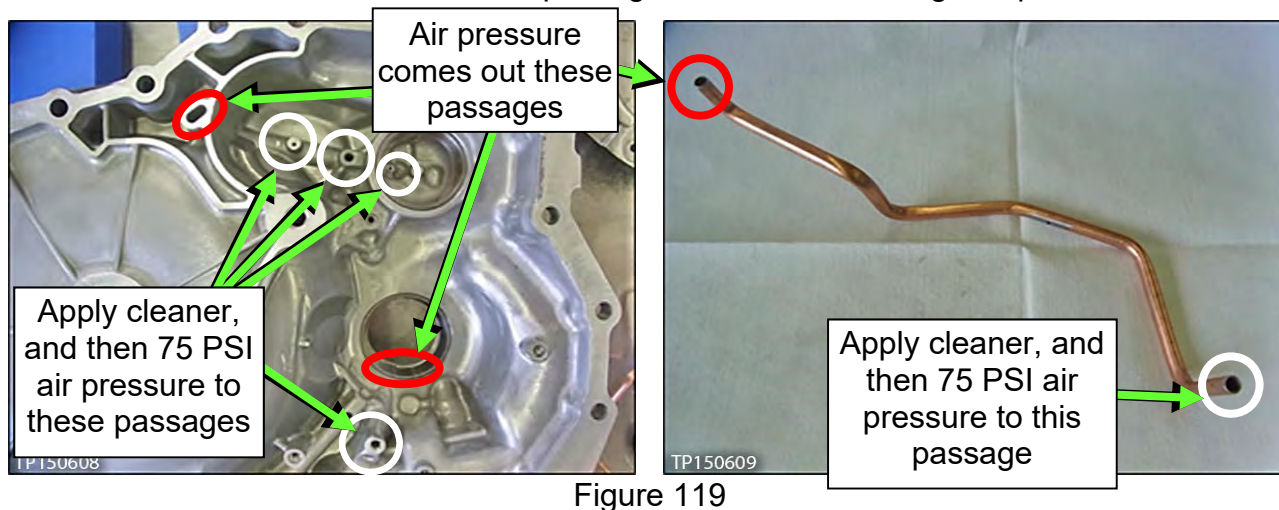
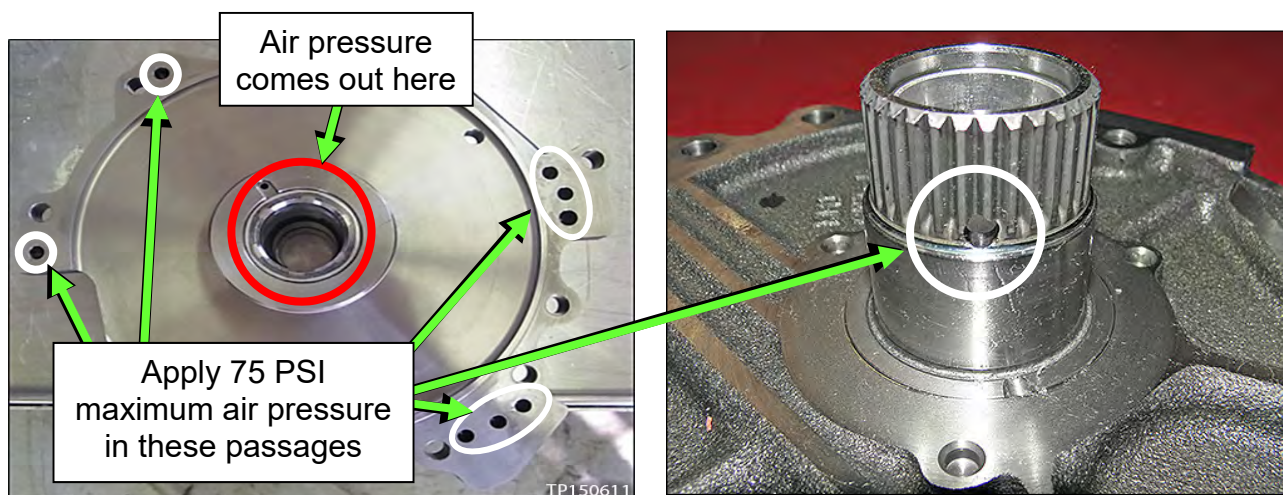

Figure 119
Figure 120
94. Clean the oil passages of the converter housing, lubrication tube and dummy cover with brake spray (or equivalent) where shown in Figure 119 and Figure 120 below.